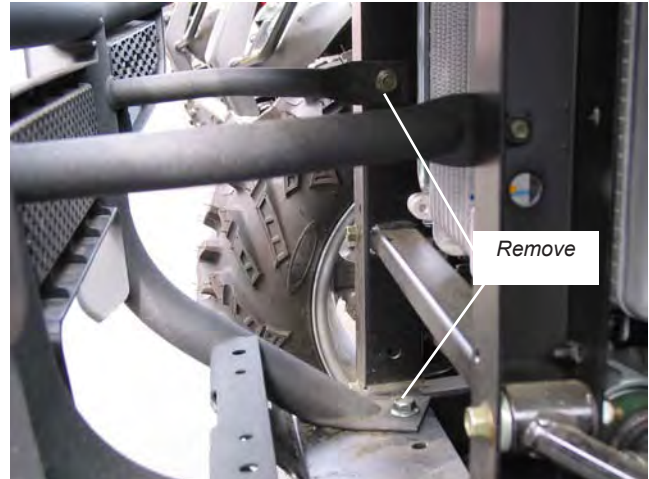

Figure 1
1. Remove factory bumper as shown in Figure 1, using 14mm and 17mm sockets. If vehicle is equipped with a skidplate, use 8mm socket to remove hardware that attaches it to bumper. Keep all hardware.